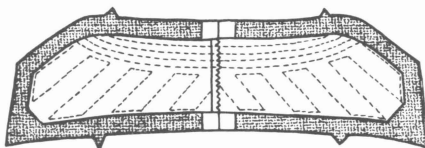

Figure 23. Machine pad stitching the undercollar.
7. On the stand, use the presser foot as a guide and make parallel rows of stitching between the roll line and the neck edge about $\frac{1}{4}$ inch (6 mm) apart (Figure 23, see area A).
8. On the remainder of the undercollar, start at the center back and stitch diagonally following the grainline. Stitch parallel rows $\frac{1}{2}$ to $\frac{3}{4}$ inch (1.3 to 2 cm) apart, pivoting at the ends of rows (Figure 23, see area B).